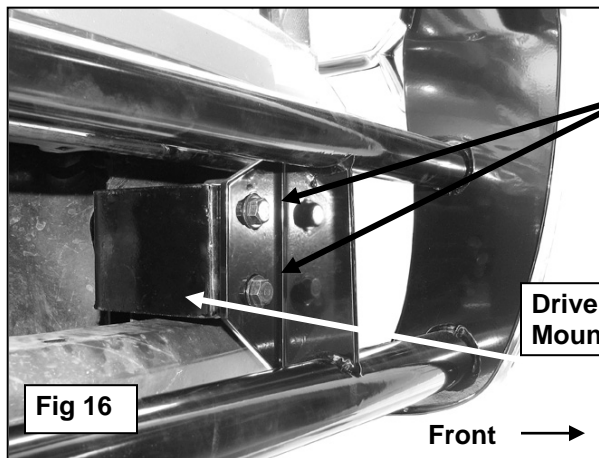

Fig 16
10. With assistance, hold the Grille Guard up to the vehicle. Stands are highly recommended. Line up the (4) mounting holes in the Frame Mounting Brackets with the holes in the mounting plates on the Grille Guard. Bolt the Grille Guard to the Frame Brackets with (4) 12mm x 40mm Hex Bolts, (8) 12mm Flat Washers, (4) 12mm Lock Washers and (4) 12mm Hex Nuts, (**Figure 16**). Snug but do not tighten hardware at this time.